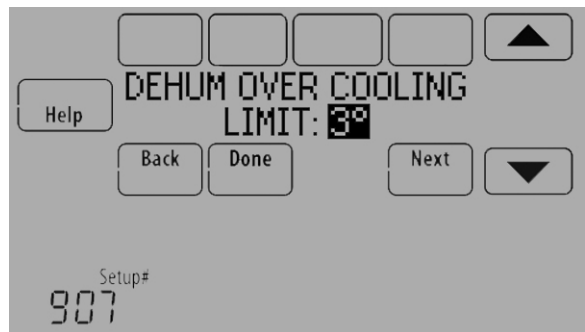

Fig. 129.
4. Set the Overcooling Limit. See Fig. 129. Options: